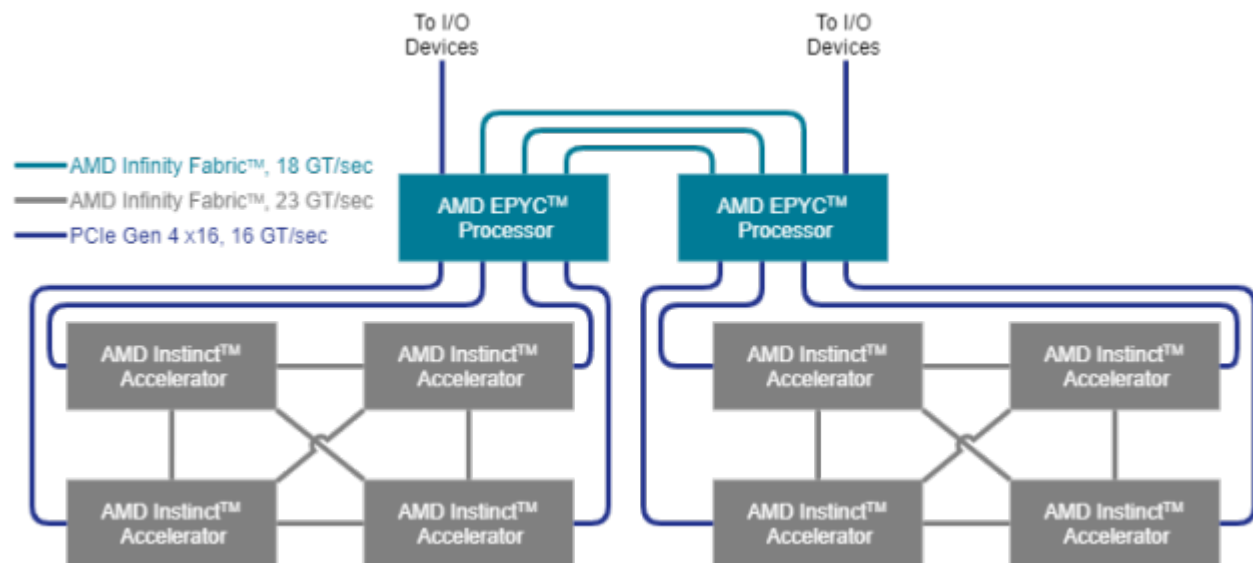
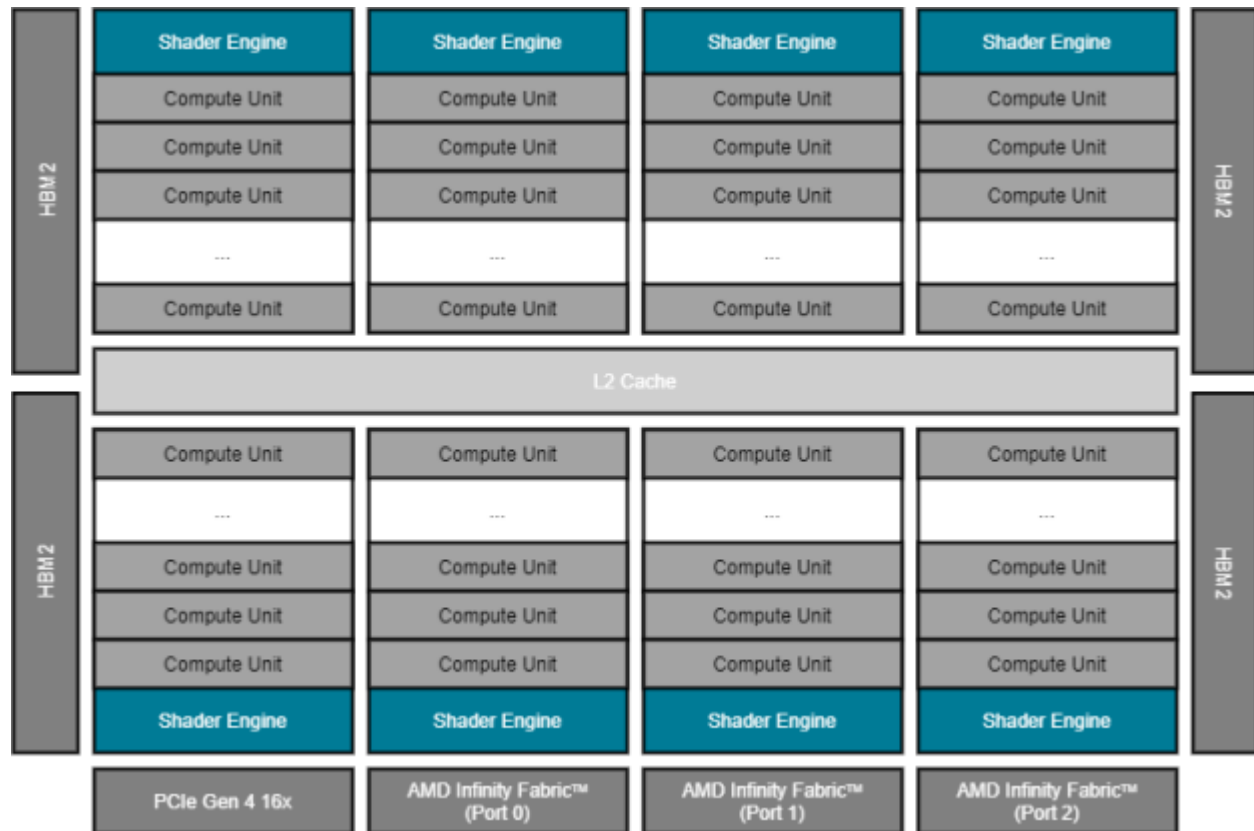

Fig. 30.4: Structure of a single GCD in the AMD Instinct MI100 accelerator.
Fig. 30.5: Structure of the AMD Instinct accelerator (MI100 generation).
Fig. 30.4 shows the node-level architecture of a system that comprises two AMD EPYC™ processors and (up to) eight AMD Instinct™ accelerators. The two EPYC processors are connected to each other with the AMD Infinity™ fabric which provides a high-bandwidth (up to 18 GT/sec) and coherent links such that each processor can access the available node memory as a single shared-memory domain in a non-uniform memory architecture (NUMA) fashion. In a 2P, or dual-socket, configuration, three AMD Infinity™ fabric links are available to connect the processors plus one PCIe Gen 4 x16 link per processor can attach additional I/O devices such as the host adapters for the network fabric.
Fig. 30.5 shows the AMD Instinct accelerator with its PCIe Gen 4 x16 link (16 GT/sec, at the bottom) that connects the GPU to (one of) the host processor(s). It also shows the three AMD Infinity Fabric ports that provide high-speed links (23 GT/sec, also at the bottom) to the other GPUs of the local hive as shown in Fig. 30.4.
The execution units of the GPU are depicted in Fig. 30.5 as Compute Units (CU). There are a total 120 compute units that are physically organized into eight Shader Engines (SE) with fifteen compute units per shader engine. Each compute unit is further sub-divided into four SIMD units that process SIMD instructions of 16 data elements per instruction. This enables the CU to process 64 data elements (a so-called 'wavefront') at a peak clock frequency of 1.5 GHz. Therefore, the theoretical maximum FP64 peak performance is 11.5 TFLOPS (4 [SIMD units] x 16 [elements per instruction] x 120 [CU] x 1.5 [GHz]).